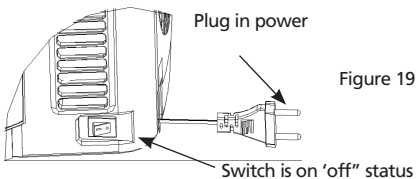

Figure 19
7. Turn on the power switch to "I" position to power on the beer cooler. (While "0" position is to power off it) (Figure 19).